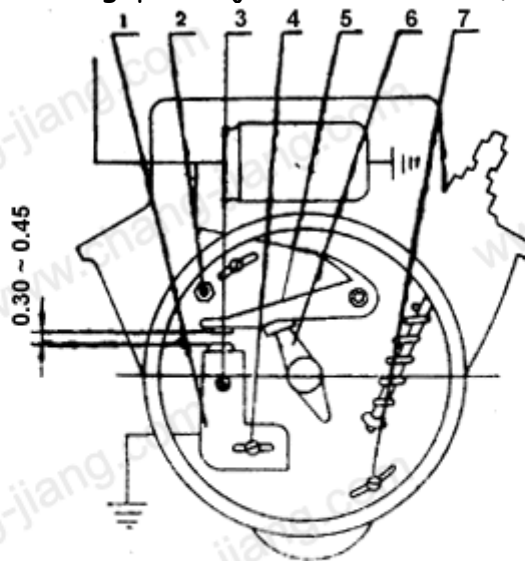

Fig. 8 Schematic Diagram of Distributor FDQ—1
4.3.1 The distributor of engine CJ-750, installed in the front end cover of crankcase, is of FDQ-1 type, whose contact gap is adjusted as follows (see Fig.8).
- a. Loosen slightly the securing bolt in the distributor bottom plate (see Figs 8 and 9) and connect parallelly an indicating light across distributor capacitor. Turn on ignition switch, apply gently kickstarter to operate crankshaft to make piston reach the point 0.5-1mm to its upper limit in cylinder. Rotate the distributor till the indicating light just comes on. Then tighten the securing bolt, reoperate the crankshaft to make the indicating light on. Check to see if the piston is 0.5-1mm to its upper limit in cylinder. If it is not, it should be readjusted.